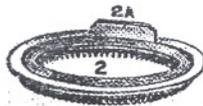
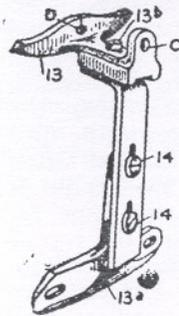

Fig. 4.
Fig. 7.
The cog ring (Fig. 4) works in the base, having on its underside cogs which fit in the cogs of the driving wheel (8). The projecting part (2a) to which the yarn-guide is secured drives the cam shell.
Particular notice should here be taken of the way in which the needles are operated by these cams. Supposing that the cam shell is travelling in a forward direction round the cylinder which has one needle in it, the needle foot is resting at its normal height upon the ledge, the first cam which comes in contact is cam B (upthrow cam). This raises it slightly, and the needle next comes in contact with cam A., which depresses it below the normal level of the required length of stitch. Cover plate E. raises it again on to the ledge where the needle rests until the cams have passed once round the cylinder. In this forward movement upthrow cam C. is not brought into use, being sunk behind and below the cover plate E., but in the backward movement upthrow cam C. acts instead of B., which in this movement sinks below cover plate D. These cams B. and C. are raised above the cover plates D. and E. by the projecting piece (2a, Fig. 4) of the cog ring, which operates them by two pins which pass through to the outside of the cam shell.
Fig. 7, the combination yarn-guide and latch opener (13), is secured to a bracket (13a) by two screws (14), the screw holes are slotted so that the yarn-guide can be raised or lowered to the required position to suit the needles. The bracket is screwed to the cog ring at (2a, Fig. 4). Screw (13b) is to adjust the yarn-guide towards or away from the needles. The yarn is threaded from the back, first through hole (c) then through hole (d).